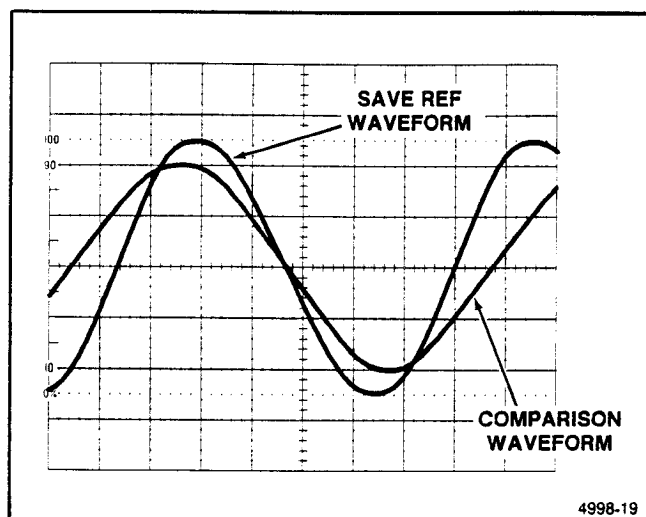

Figure 6-17. Waveform comparison.
7. Use the selected channel's Vertical POSITION control to overlay the newly acquired waveform on the reference waveform for making the comparison (see Figure 6-17). The vertical deflection and sweep rate remain calibrated to allow direct measurement from the graticule, or cursors may be used to determine voltage or time differences.